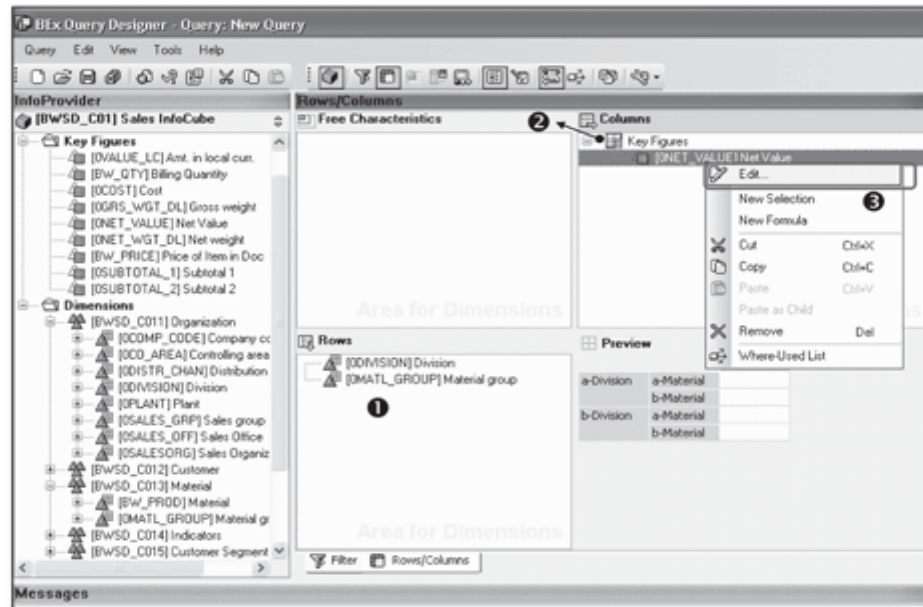

Figure 9.53 Edit Key Figure
To begin with, get all of the characteristics needed to define the query in the Rows section (❶ of Figure 9.53), and also drag the key figure Net Value, which is needed to define the query. When you add the first key figure to the columns, the key figure structure is automatically created (❷).
You can restrict this key figure by applying selections to it. Double-click on the key figure, or select Edit from the context menu for the key figure (❸ of Figure 9.53). This action will open a selection screen for the key figure (Figure 9.54).